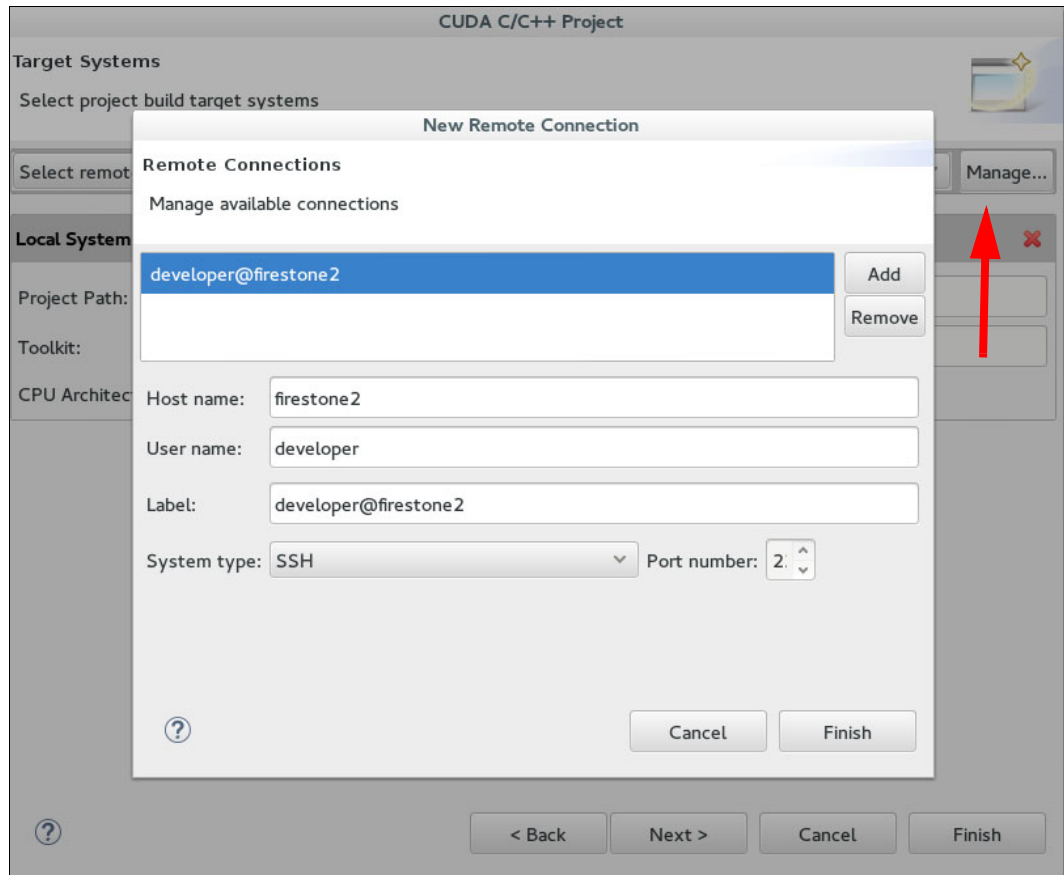

Figure 9-35 Nsight: New CUDA C/C++ project remote connection setup
4. Click **Manage** (as shown in Figure 9-35) to configure a new connection to the remote machine.
5. As shown in Figure 9-35, enter the connection information fields (host name and user name). Click **OK**.